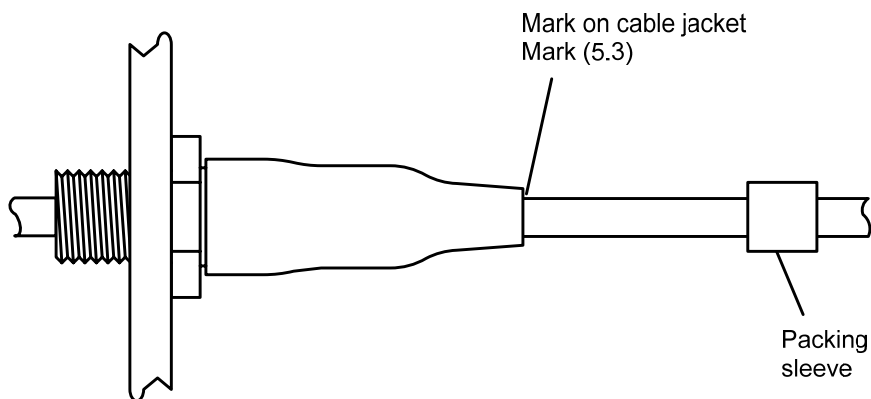

Figure 1
5.3 Slide the TCFS/TCFR along the cable and temporarily position. Mark the cable where the boot ends. Release the TCFS/TCFR and slide back along the cable. See Figure 1.